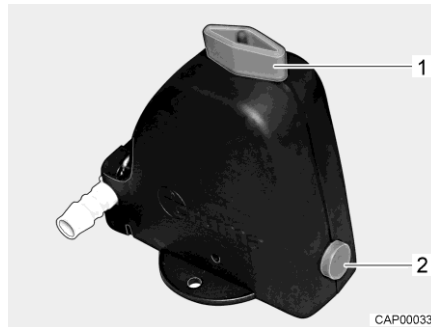
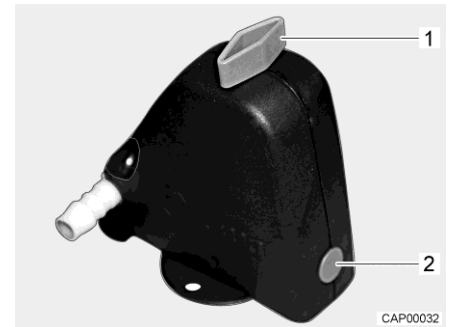

Fig. 59 Safety/drainage valve open
Fig. 60 Safety/drainage valve closed
- Close the safety/drainage valve. Turn the knob (Fig. 59,1) perpendicular to the safety/drainage valve and push the push button (Fig. 59,2) in. The closed safety/drainage valve is shown in Fig. 60. If the temperature is below 6 °C, the safety/drainage valve cannot be closed.